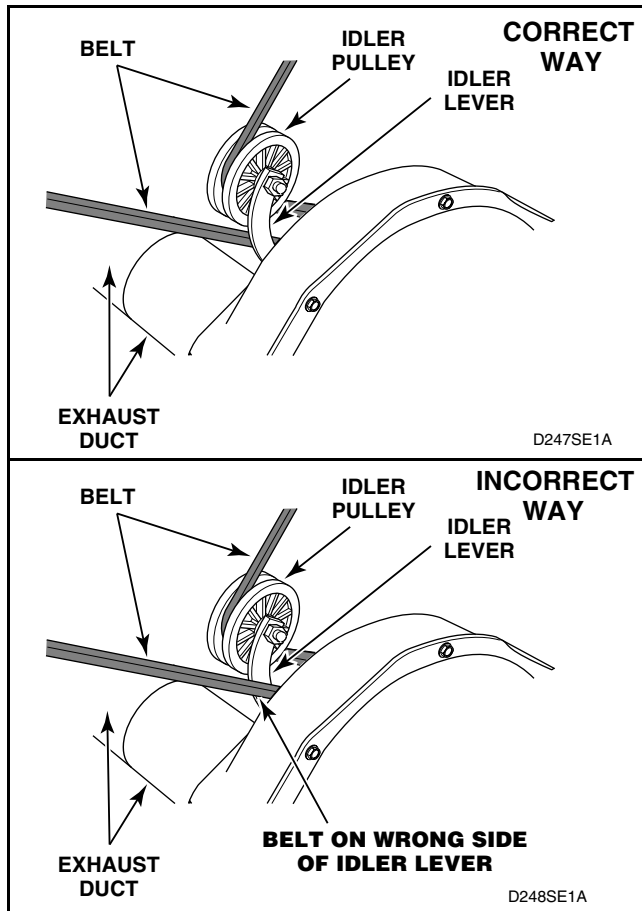

Figure 20
- Remove cylinder belt from idler and motor pulleys. Refer to *Figure 20*.
**IMPORTANT:** When reinstalling motor and exhaust assembly, be sure wire harness on right side is clipped to motor mounting bracket and is routed along dryer base (between motor mounting bracket and right side of cabinet). Refer to *Figure 17*. Tab on rear of motor mounting bracket must be slid into slot in dryer base. Be sure the belt has been installed on the correct side of the idler lever. Refer to *Figure 20*.